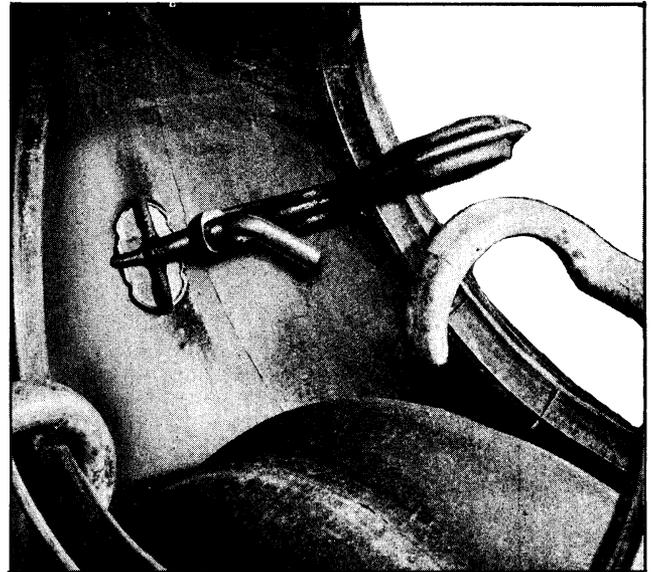

Fig. 4-14 Hot Patch Application
7. Carefully center hot patch over injury and hold in place using special hot patch clamp. Tighten clamp maximum finger tight. (See Fig. 4-14)